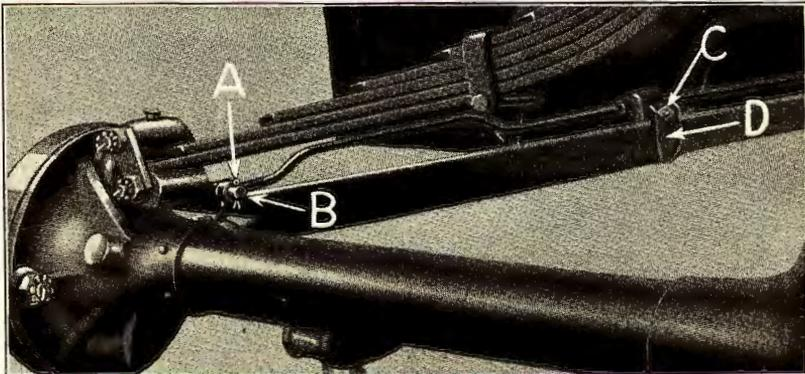

Fig. 360
- 645 Remove brake rod from hub camshaft lever by withdrawing cotter key (See "A" Fig. 360) from clevis pin "B" and withdrawing clevis pin.
- 653 Install brake rod support (See "D" Fig. 360) on radius rod, approximately 18" from bolt holes in forked end of radius rod.
- 654 Position forked end of brake rod on camshaft lever. Insert clevis pin and lock with cotter key (See "B" Fig. 360).